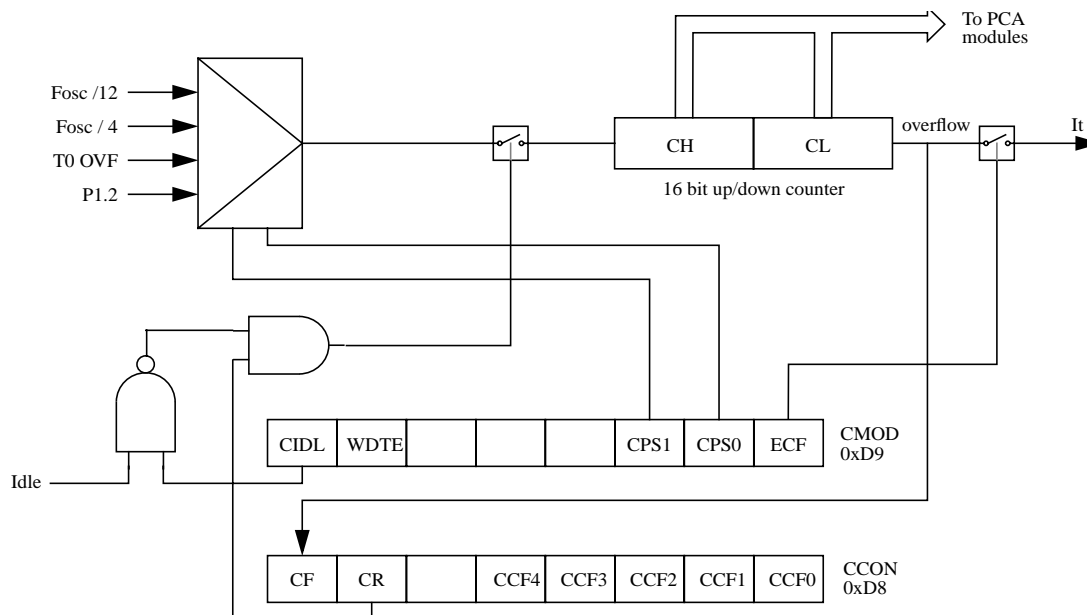

Figure 7. PCA Timer/Counter
**The PCA timer** is a common time base for all five modules (See Figure 7). The timer count source is determined from the CPS1 and CPS0 bits in the **CMOD SFR** (See Table 8) and can be programmed to run at:
The CMOD SFR includes three additional bits associated with the PCA (See Figure 7 and Table 8).